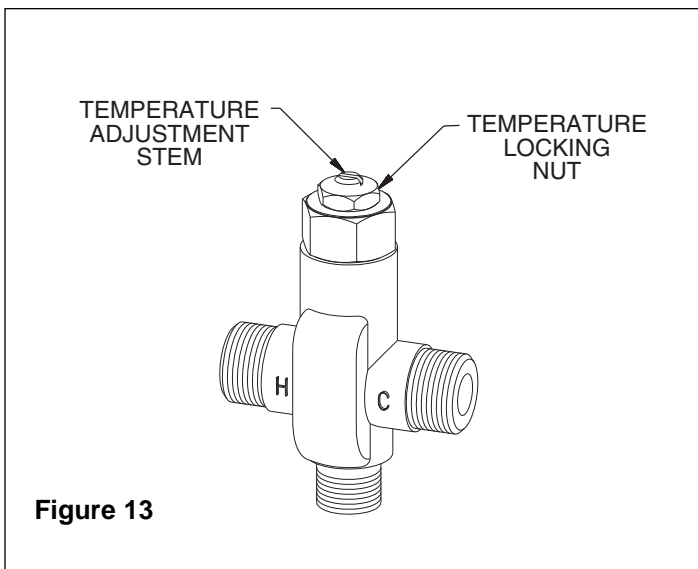

Figure 13
- Using a blade screwdriver, turn the adjustment stem **counterclockwise** to **increase** the temperature or **clockwise** to **decrease** the temperature (Figure 13).